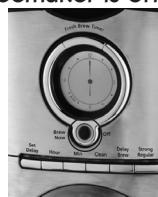

Figure 6
1. After completing the steps in the **Adding Water and Coffee** section and with the glass decanter and the filter basket securely in place, turn the coffeemaker on by pressing the BREW NOW button once. The BREW NOW blue light will turn on to signal that the coffeemaker is on and brewing (Figure 6).